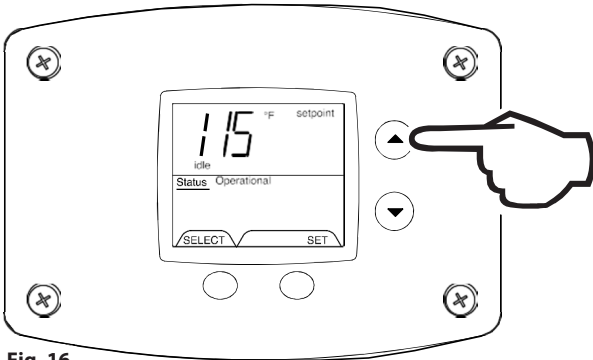

Fig. 16
4. Set the desired temperature by following Fig. 16 to 21 on pages 27 & 28.
1. Depress and hold 'Temperature Up' button until desired setpoint temperature appears in the display (Fig. 16).